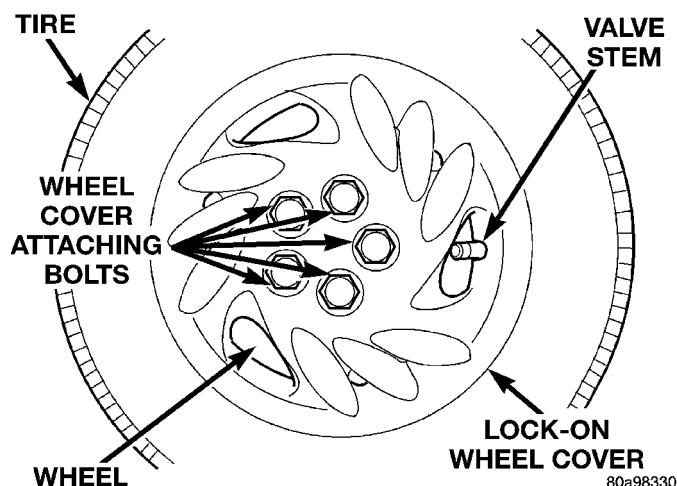

Fig. 10 Wheel Cover Attaching Nuts
NOTE: When unthreading the wheel cover retaining nuts (Fig. 10) from the wheel nuts it is recommended that a hand wrench be used and not an impact wrench. Use of an impact wrench could
- (1) Un-thread the 5 nuts (Fig. 10) attaching the wheel cover to the wheel nuts.
- (2) Grasp the wheel cover and pull straight outward from the wheel. This will remove the wheel cover from the wheel.
(1) Align the valve notch in the wheel cover with the valve stem on the wheel (Fig. 10). Align the wheel cover retaining nuts with the externally threaded wheel nuts.
(2) By hand, start to thread all 5 of the wheel cover retaining nuts onto the externally threaded wheel nuts.